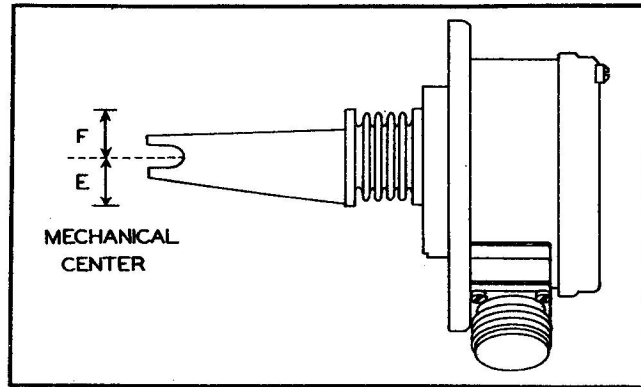

Figure 4-150. Stroke Setting Position Diagram
ADJUSTING STROKE OF POTENTIOMETER CONTACT ARM. See paragraph 3-11 and use field tester wiring diagram referenced in Table of Electrical Data, figure 4-145. Instead of using a set-up stand, displace bellows arm (item 23, figure 4-144) mechanically to "Empty" and "Full" positions indicated in figure 4-150 and in Table of Stroke Setting Positions, figure 4-149.